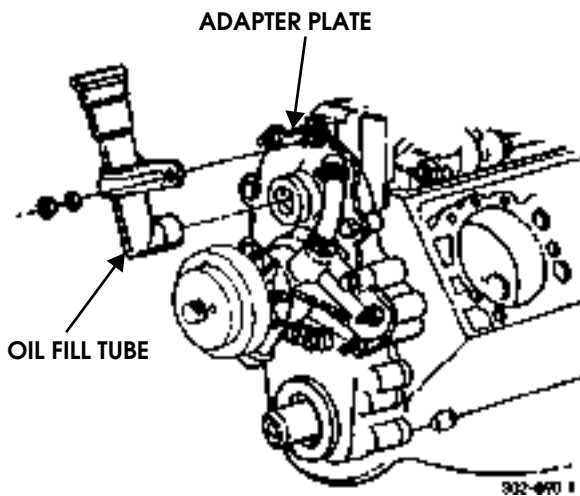

Figure 2-174: Oil Fill Tube Installation
4. Install oil fill tube on adapter plate with two washers and nuts. Tighten nuts to 13-20 lb-ft (18-27 N•m) (Figure 2-174).